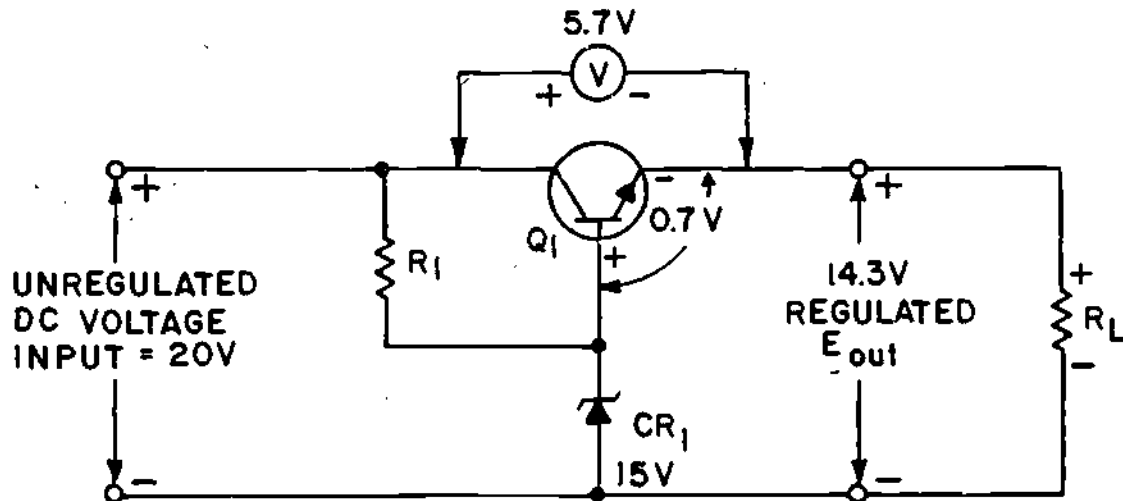

FIGURE 6
14. Now study Figure 6. Notice that voltages are shown to help you understand how the regulator operates.